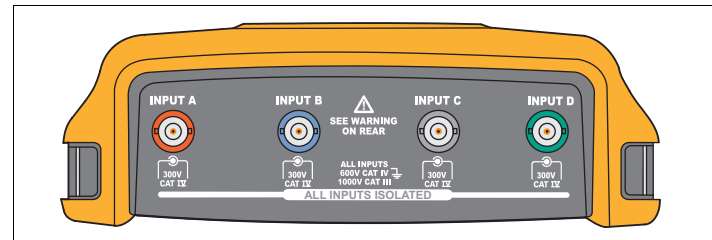

Figure 1. BNC Connectors
- Do not connect the ground spring (see Figure 1 in the *ScopeMeter Test Tool 190 Series II Users Manual*) to voltages higher than 42 V peak (30 Vrms) from earth ground.
The top of the test tool has four safety BNC signal inputs. These isolated inputs allow independent floating measurements with each input. See Figure 1.